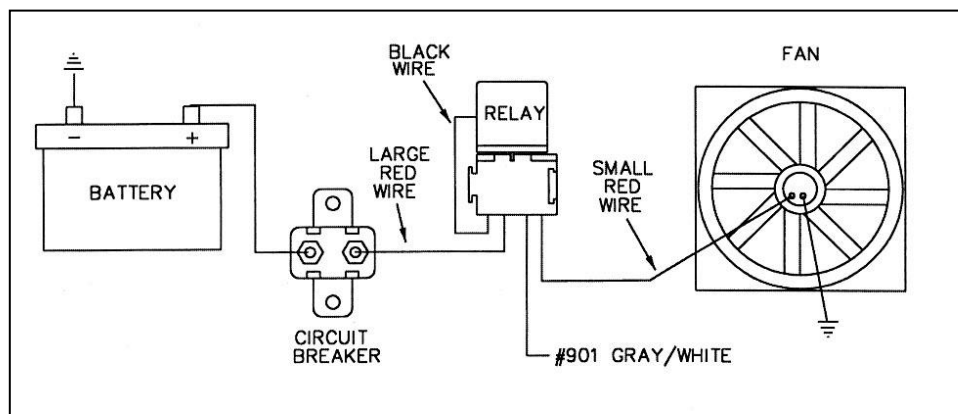
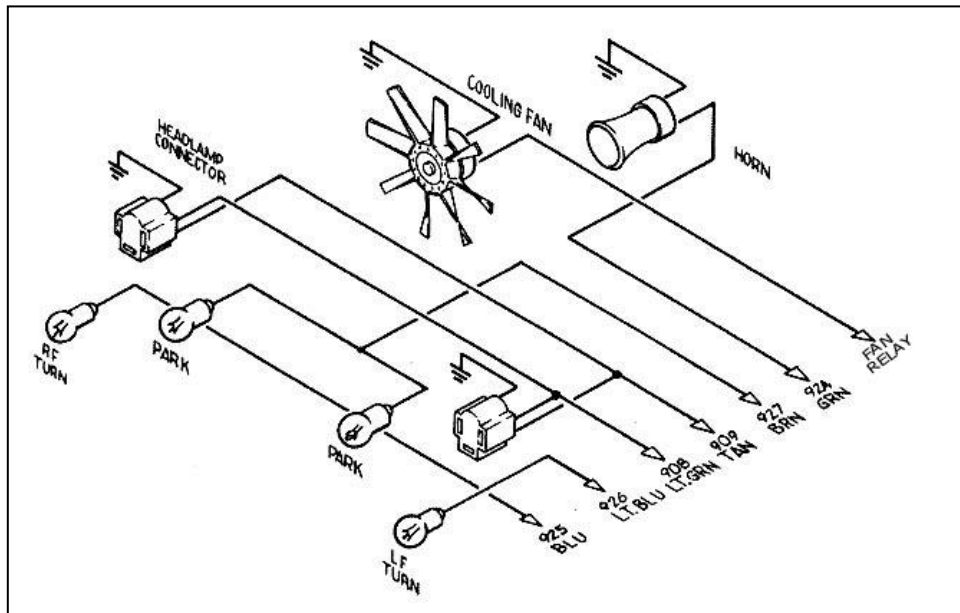

Figure 10-4A Typical Fan Relay Installation (Painless Part #30101)
Figure 10-4B HEADLIGHT SECTION A Wiring
10.5 HEADLIGHT SECTION A. See Figure 10-4B.
- 10.5.4** Connect HEADLIGHT SECTION A wire #901 (gry/wht) to the Electric Fan Relay. This wire is an activation wire for the relay, **NOT A POWER FEED**. The other end of wire #901 is in the ACCESSORY SECTION SWITCHES and should be connected to the electric fan switch in the dash. Connect 906 (gry/wht) from ACCESSORY SECTION B+ to the other side of the fan switch. **Figure 10-4A** shows a typical fan relay installation. **Note:** The wire going to the fan in **Figure 10-4B** will be coming from the fan relay output terminal. Wire #901 (gry/wht) from the ACCESSORY SECTION SWITCHES is an activation wire for the fan relay.